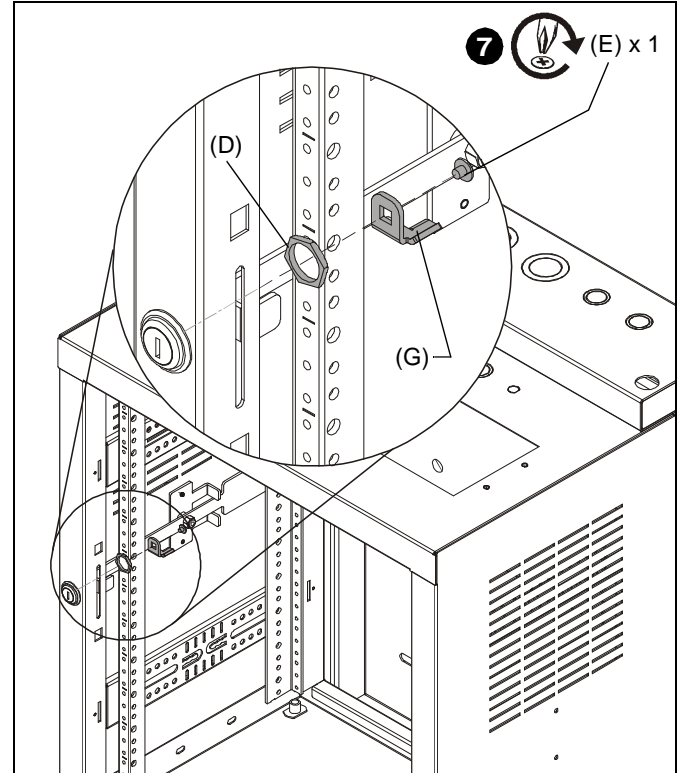

Figure 2
5. From the back, attach nut (D) to lock barrel (B). (See Figure 2)
7. Fasten lock assembly together using fastener (E). (See Figure 2)